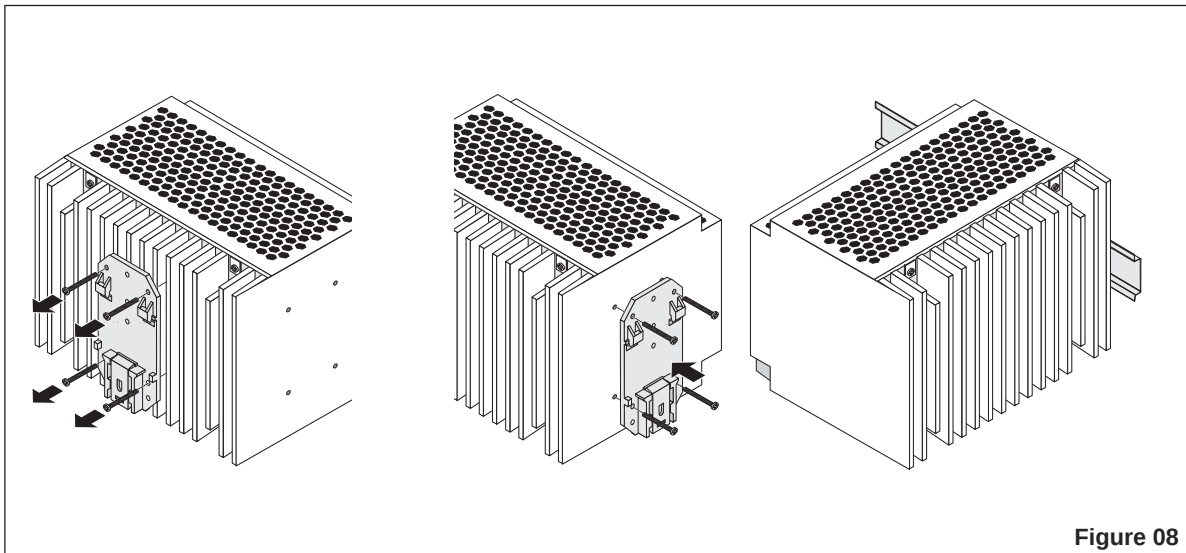

Figure 08
A narrow mounting position can be achieved by mounting the module onto the DIN rail at a 90° angle. To do this, mount the DIN rail adapter (UTA 107) ⑦ as shown in Figure 08. No additional assembly material is required. Mounting screws: Torx T10 (torque 0.8 - 0.9 Nm).